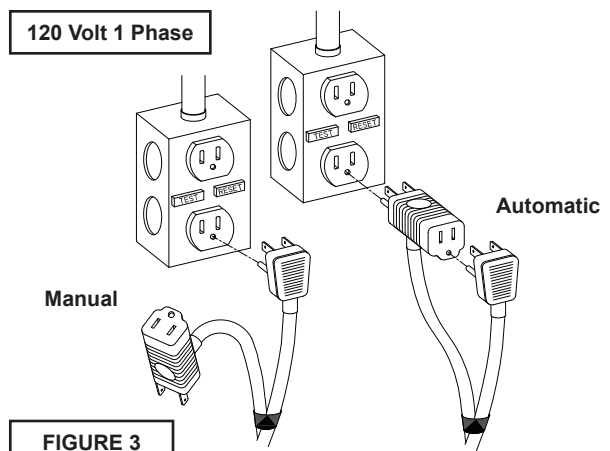

FIGURE 3
- 6.) Figure 3 shows a typical connection for pumps with the wide angle float and piggy-back plug. For manual and automatic operations.
- Apply pipe sealant to pressure gauge assembly and tighten into pipe plug hole (See Figure 3). Pressurize motor housing to 10 P.S.I. Use soap solution around the sealed areas and inspect joints for “air bubbles”.
- The pressure test may be done with the oil at its normal level. Remove pipe plug (39) from motor housing (6). Apply pipe sealant to pressure gauge assembly and tighten into hole (see Figure 3). Pressurize motor housing to 10 P.S.I. Use soap solution around the sealed areas above the oil level and inspect joints for “air bubbles”. For sealed areas below the oil level, leaks will seep oil.